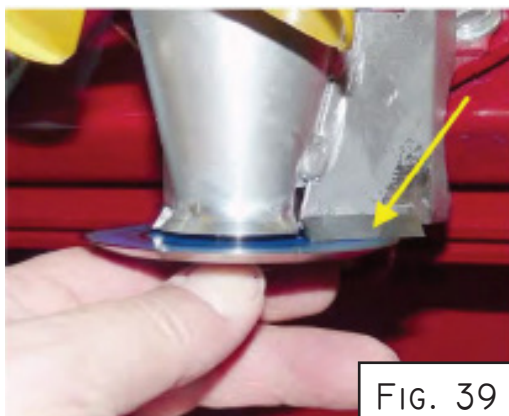

FIG. 39
6. When replacing the Cutter Blade make sure the spring loaded Carbide Blades are firmly against the back-side of the Cutter Blade (see yellow arrow in Fig. 39.) Use the Spanner Wrench, Fig. 35 to tighten Cutter Blade.